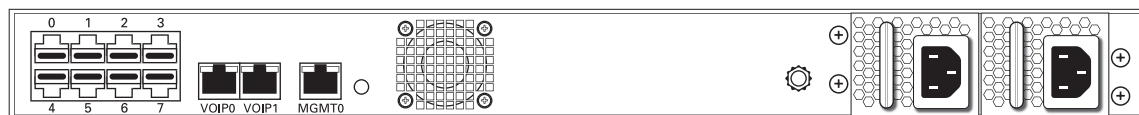

Figure 2.4 8-Port Interface to the PSTN
1. Start with port 0 located at the top and leftmost position. Connect one cable between this port and the T1/E1 line. See figure 2.4 on page 18.